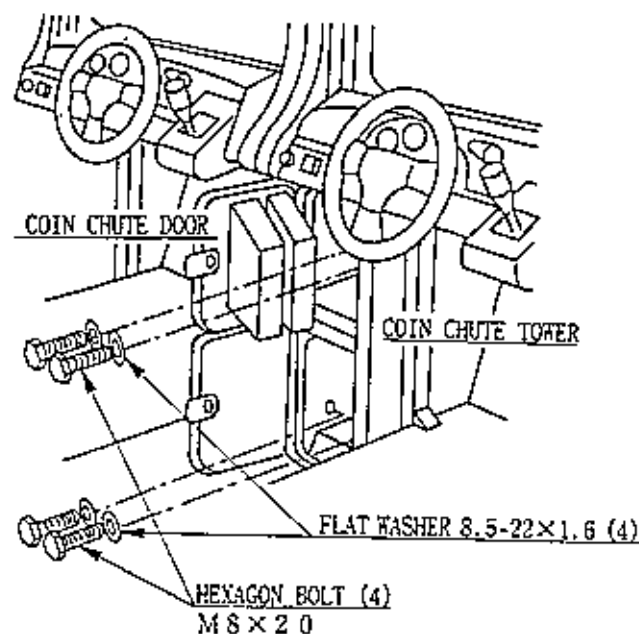

FIG. 6.2
- ② Install the coin chute tower in between both cabinets. Open the coin chute door and the cashbox door to secure with the 4 hexagon bolts from inside the doors. At this time, make sure that the bolts are fastened temporarily (Fig. 6.2).